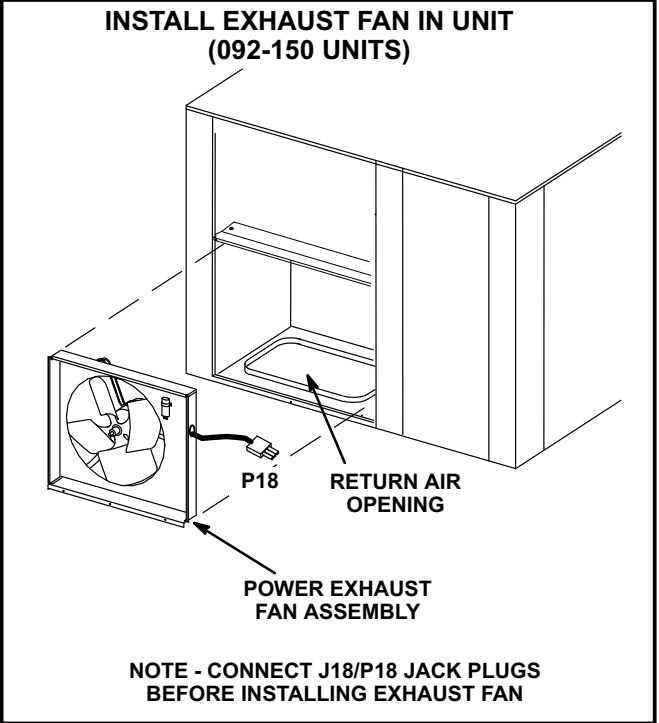

FIGURE 14
092/150 Units (refer to figure 14)
- 1- Lift the fan assembly into the opening and insert the top side first. Align the top of the assembly inside the flange on the division panel. Secure the bottom of the assembly to the unit with screws provided. See figure 14 for 092/150 units and figure 17 for 156/360 units.